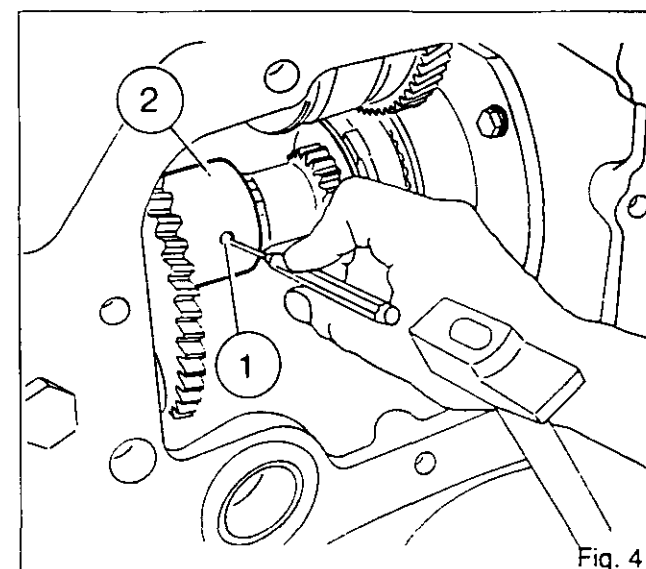
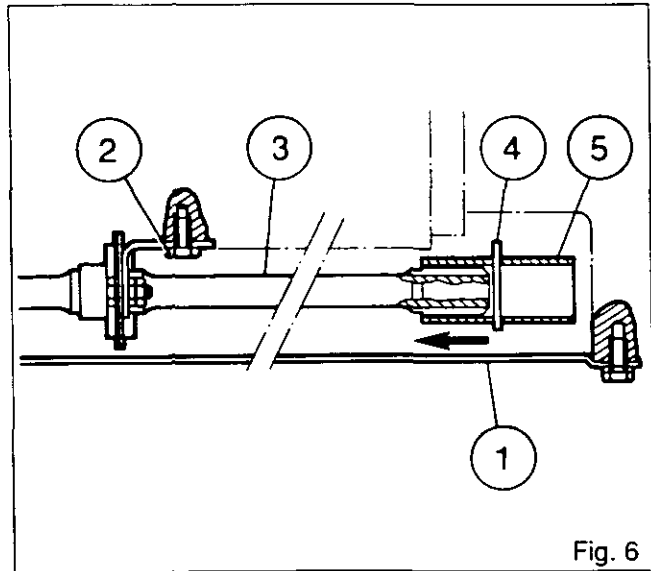

Fig. 4
Fig. 6
8. Drive out the double pin (1) from the coupling sleeve (2) (Fig. 4). If the pin is inaccessible, carry out procedures 9 to 12.
10. Remove the guard (1) (Fig. 6).
11. Unscrew the centre bearing (2) from the 4WD shaft (3) (Fig. 6).
12. Remove the split pin (4) from the rear sleeve (5), disengage the 4WD clutch shaft by sliding off the sleeve (Fig. 6). Turn the halfshaft to bring the coupling sleeve (2) into position (Fig. 4).
25. Press a new double pin (1) into the sleeve (2) (Fig. 4).